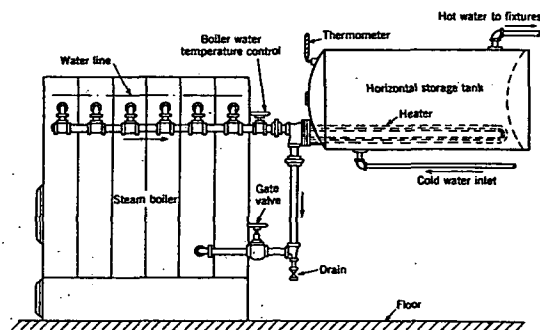

FIG. 8. HOT WATER HEATING COIL SUBMERGED IN STORAGE TANK
1. Submerged steam heating coil in storage tank. (Fig. 8).
2. Submerged water heating coil in storage tank. (Fig. 8).
Pipe sizes between the water heater and boiler should be full size of the heater tapings (Table 12). When a heater is connected to a horizontal sectional boiler, it is recommended that connections be made to all sections and joined together a few inches below the water line as shown in Fig. 8, so that steaming is prevented in those sections which are not connected to the header.